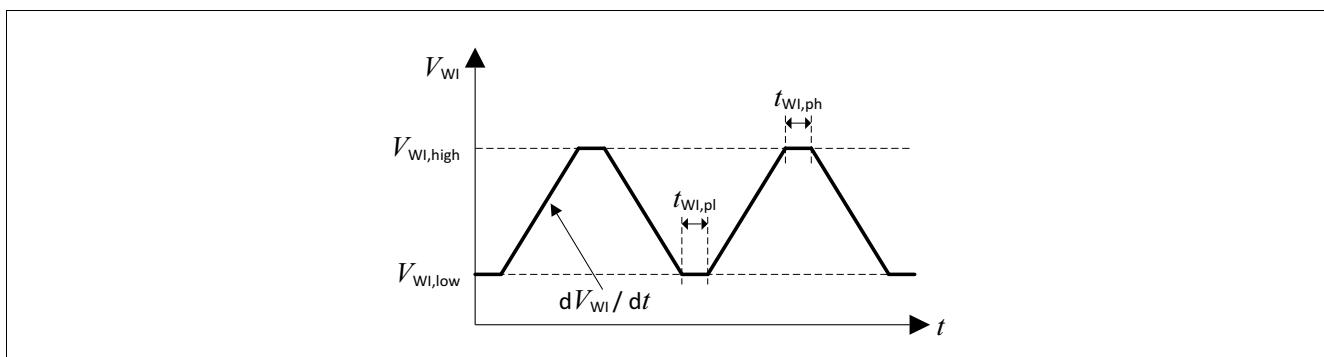

Figure 10 Test Pulses Watchdog Input WI
The watchdog is triggered by a falling edge at the watchdog input pin “WI”. The amplitude and slope of this signal has to comply with the specification (Table “Watchdog Input WI” on Page 26). For details regarding test pulses, see Figure 10 “Test Pulses Watchdog Input WI” on Page 25.
2) For details on applied test pulse, see Figure 10